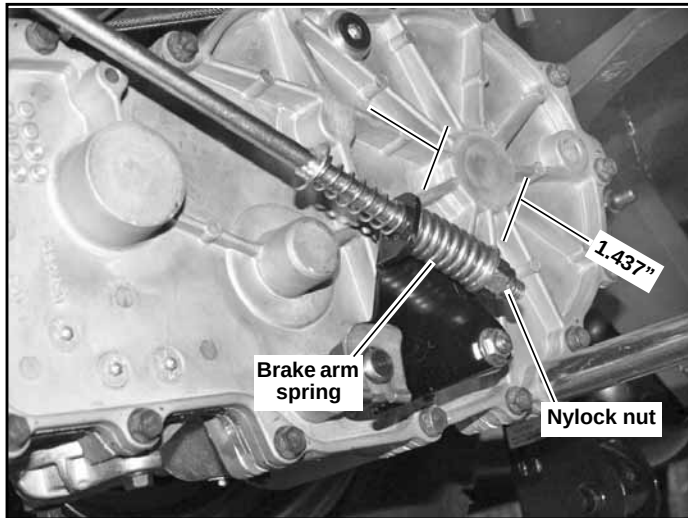

Figure 4-7
2. On one side measure the park brake spring. It should be compressed to 1.437". If it is not, adjust the nylock nut until the proper spring compression is achieved. Figure 4-7